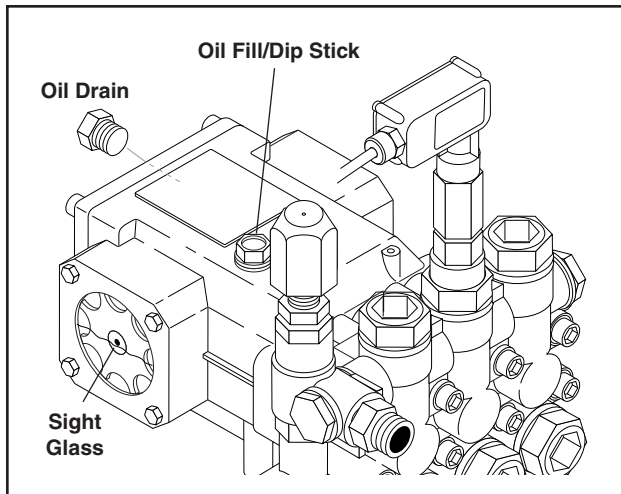

Figure 6 - Pump Lubrication
**Lubrication:** To lubricate pump, use 30W non-detergent oil for pump crankcase. Crankcase must be filled to center of sight glass window found on the side of the pump; refer to **Figure 6**. During the break-in period, make sure the oil is changed after the first 25 hours of operation. After that, replace oil every 3 months or 300 hours of operation, whichever comes first.